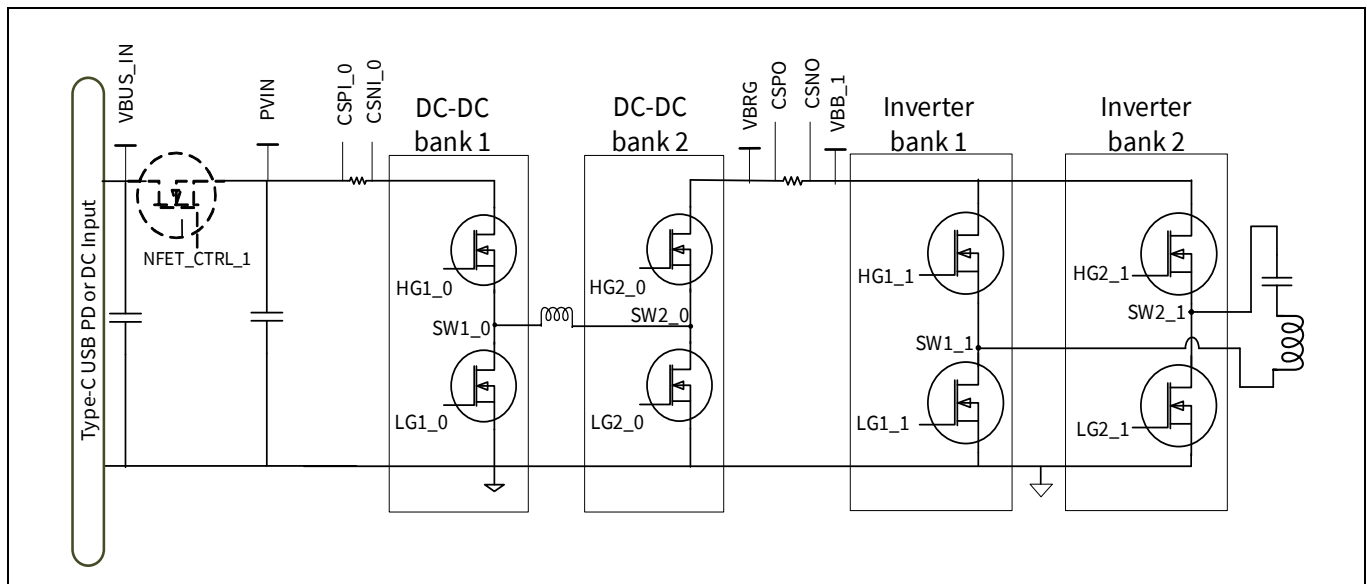

Figure 3 WLC1115 key pin mapping with buck-boost and inverter power supplies^[4]
4. Refer **Figure 3** for an overview of key WLC1115 pin mapping to power input, current sense and gate drivers of buck and inverter power supplies.